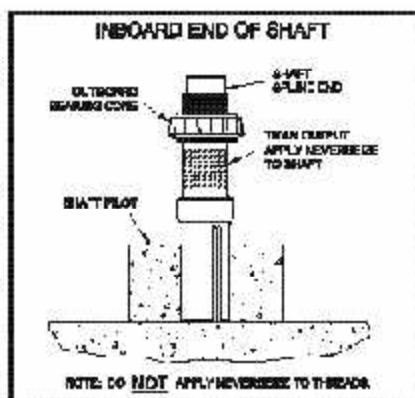

Figure 6.3.5.1—Placement of Outboard Bearing Cone on Shaft
4. Place the outboard bearing cone squarely on the inboard end of the shaft with the smaller diameter of the bearing facing inboard; reference Figure 6.3.5.1.